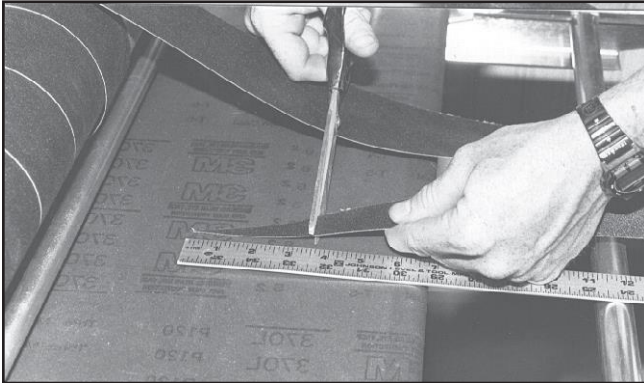
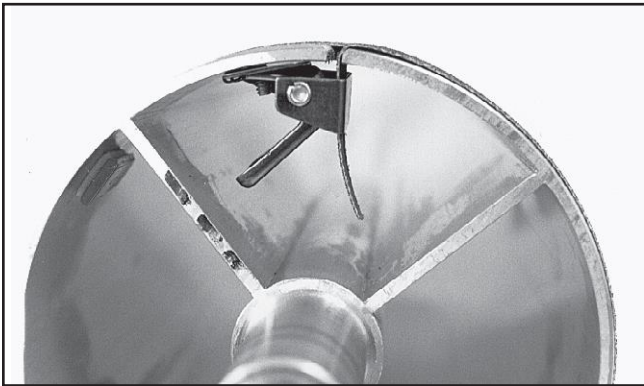

Fig. 16B Trim about 3" from end of cut taper.
Fig. 16D Insert tapered end into outboard slot.
1. Mark and cut a taper at one end of the roll as shown in Fig. 16a. Because the tapered end should use most of the left (outboard) slot width, its end must be trimmed (Fig. 16B and 16C). Raise the clip lever on the left (outboard) side of the drum (Fig. 16D). Insert the tapered end through the slot and into the fastener so that it uses most of the width of the slot. Release the clip lever to securely hold the strip end in the fastener.